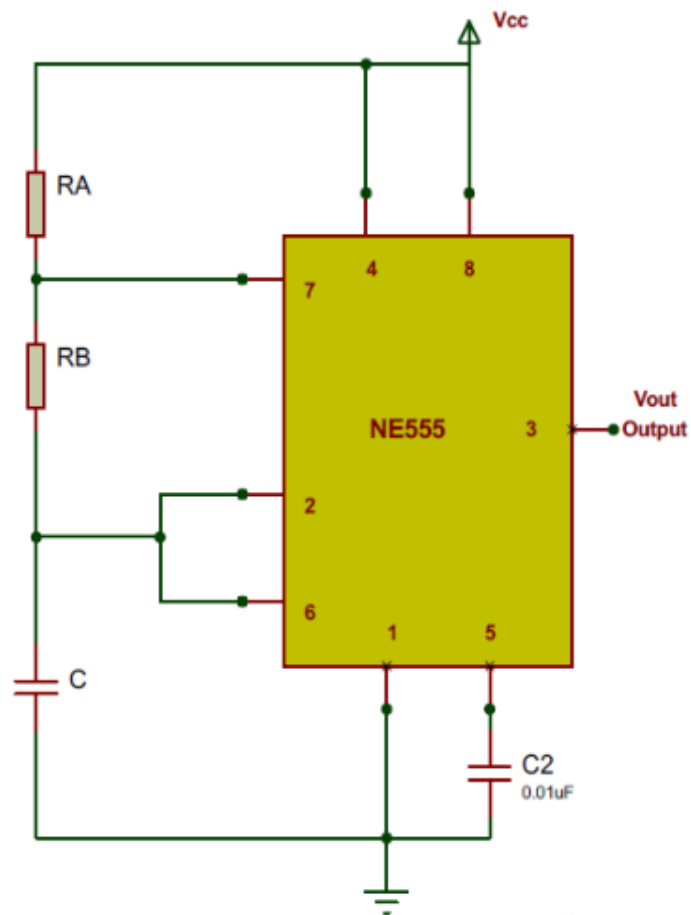

Figure: 8.3
1. Assemble the circuit shown in figure 8.3 above.